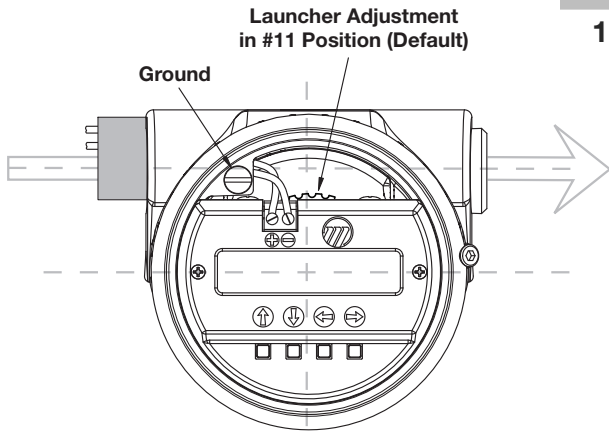
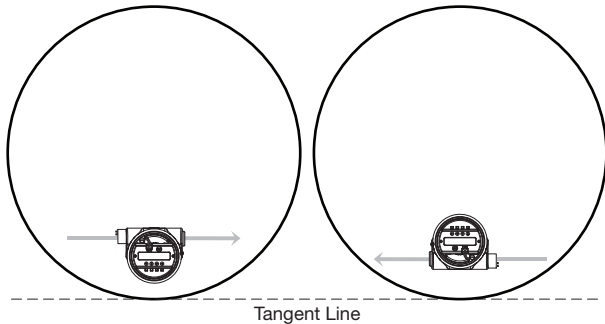

Figure 2
Figure 3
4. Adjust the beam position by turning the internal launcher adjustment (Figure 2). The internal launcher adjustment is numbered 1-18 that equates to 10-180 degrees of adjustment; 9 is the midpoint. The polarization pattern is parallel to the transmitter display when the adjustment mechanism is in the #11 position (factory default). Each index number represents 10 degrees of rotation. After positioning the transmitter display, the launcher should be adjusted so the polarization pattern is parallel to a line tangent to the nearest tank wall (Figure 3). Do not optimize the Echo Strength at one level in the vessel.